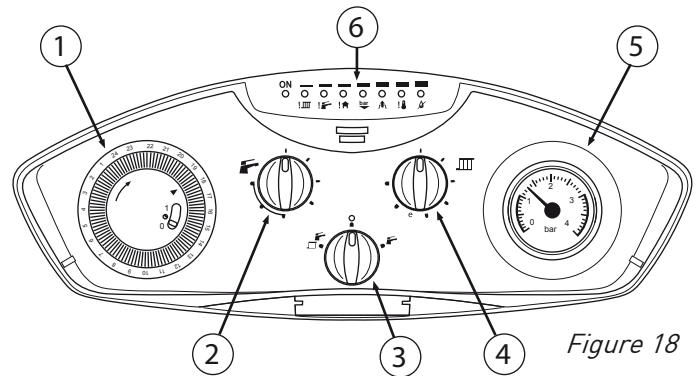

Figure 18
13.2 Re-set function: Should the boiler lock out at any time, please check the gas supply and ionisation probe position, the boiler may be re-started by switching to standby "O" position (Switch 3 figure 18) waiting 15-30 seconds and switching back to its previous position once the fault has been eliminated.